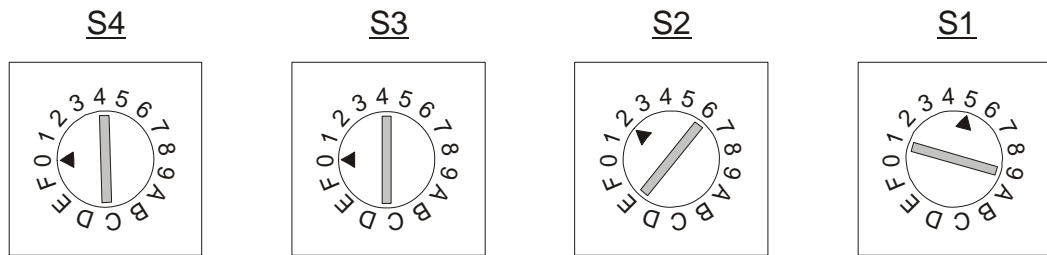

FIGURE 2-2: SWITCH SETTINGS FOR EXAMPLE 1
The base address of the SVM series modules is determined by using the offset value (OV), set by four rotary switches located on the top edge of the interface card. The switches are labeled with positions 0 through F. The most significant bit is set by the rotary dial at **S4** and corresponds to the A31 position in memory, while the least significant bit is set by **S1** and corresponds to the A16 position. For example, to set the OV to **25**, first convert the decimal number to the hexadecimal value of **0x0019**. Next, set rotary dial S4 to **0**, S3 to **0**, S2 to **1** and S1 to **9**. This value is then multiplied by 0x10000 to get the base address. See Figure 2-2. Two conversion examples are presented on the following pages.